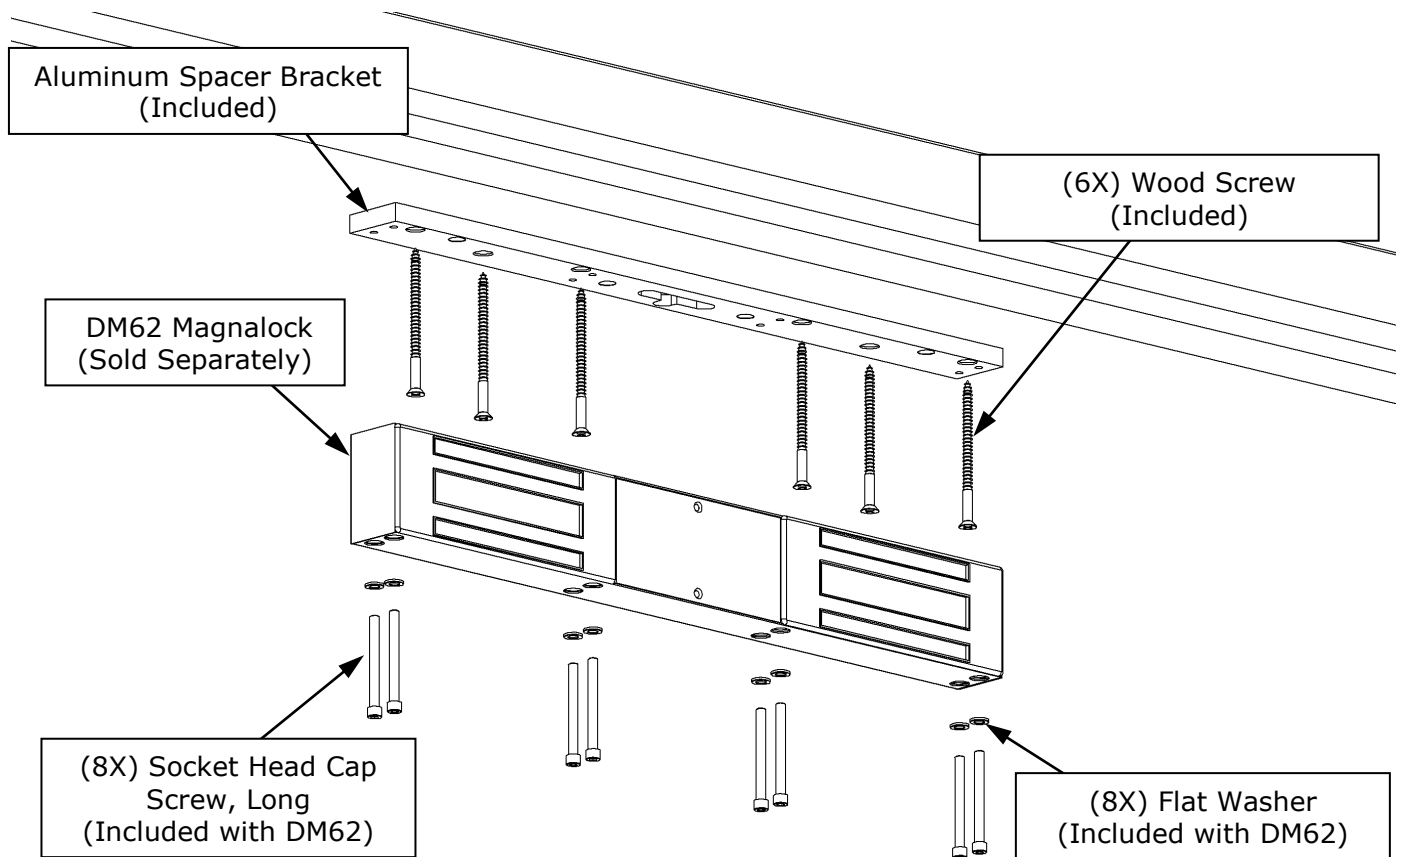

Figure 4
- Utilizing the spacer bracket as a template, mark the four (4) counter-bored holes where the blind nuts and socket head cap screws will be located.
- Drill the four (4) marked locations in the frame using a 3/8" [9.5mm] drill.
- Using the blind nut installation tool and the installation procedures provided in the DM62 package, mount the four (4) blind nuts.
- Mount the bracket onto the frame and securely tighten using the four (4) short socket head cap screws provided.
- Utilizing the six (6) counter-sink mounting holes remaining in the spacer bracket, drill 3/16" [4.8mm] holes x 1-1/2" [38mm] minimum depth, and install the six (6) sheet metal screws provided for additional strength.
- Using the eight (8) long socket head cap screws provided with the bracket hardware and the eight (8) flat washers provided with the DM62 Magnalock hardware, securely mount the Magnalock into place.
Mounting the spacer bracket onto a wood frame header requires the use of the six (6) wood screws provided. The wood screws mount through the frame and extend into the internal header to ensure a safe and secure mounting of the Magnalock reducing the possibility of the Magnalock becoming loose during regular use. **Figure 4** illustrates a visual concept of the parts that will secure the bracket for the Magnalock installation.